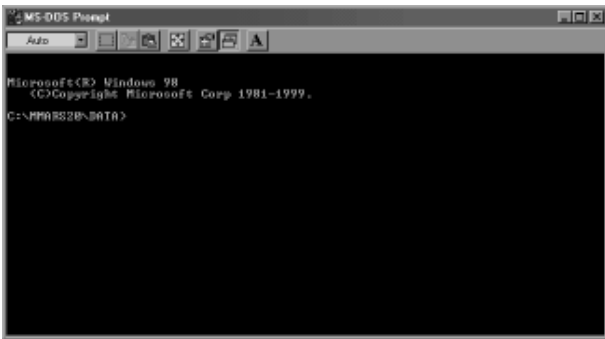

Figure 24: MS-DOS Prompt
6. By releasing the mouse or pressing “ENTER”, the DOS window will be opened. Refer to *Figure 24* for the MS-DOS Prompt menu that will appear.